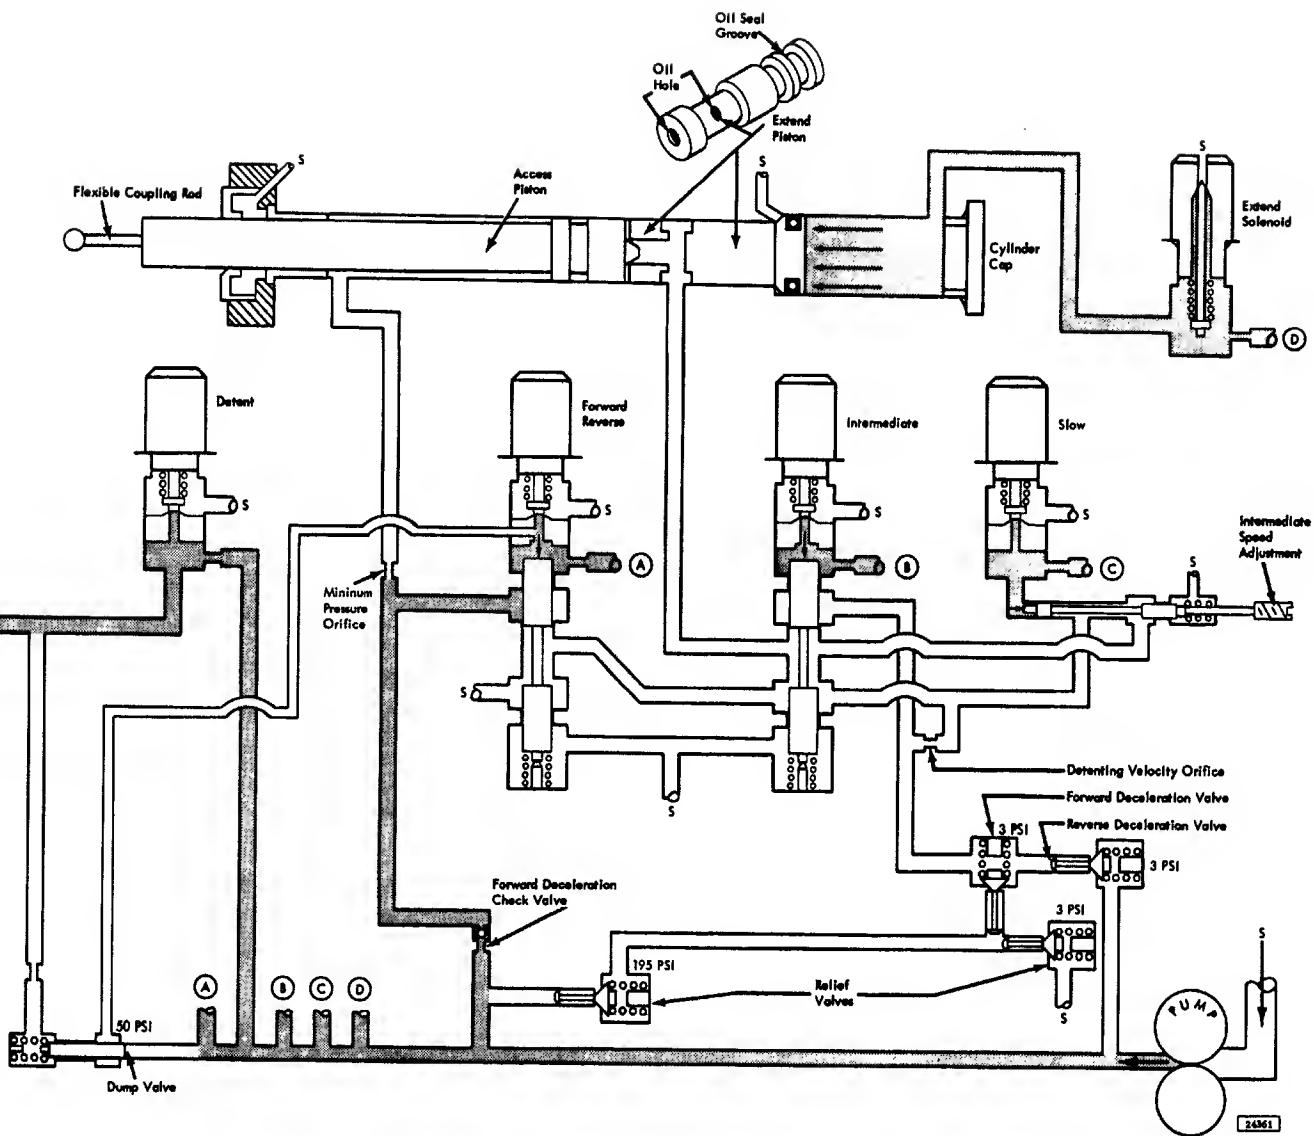

Figure 2-3. Power On, Extend
Power On-Extend (Figure 2-3)
- With the extend solenoid energized, the oil flow to sump is blocked and the extend piston moves to the left (Figure 2-3). The heads move into the pack to the home position (hydraulic home).